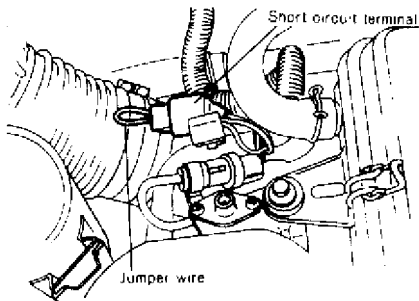

Fig. 3: Location of Short Circuit Terminal
2) Reconnect battery negative terminal. After turning ignition switch to "ON" position, short-circuit fuel pump short circuit terminal to start pump. See Fig. 3. Measure fuel pressure. Outlet pressure should be 49.8-71.1 psi (3.5-5 kg/cm²).